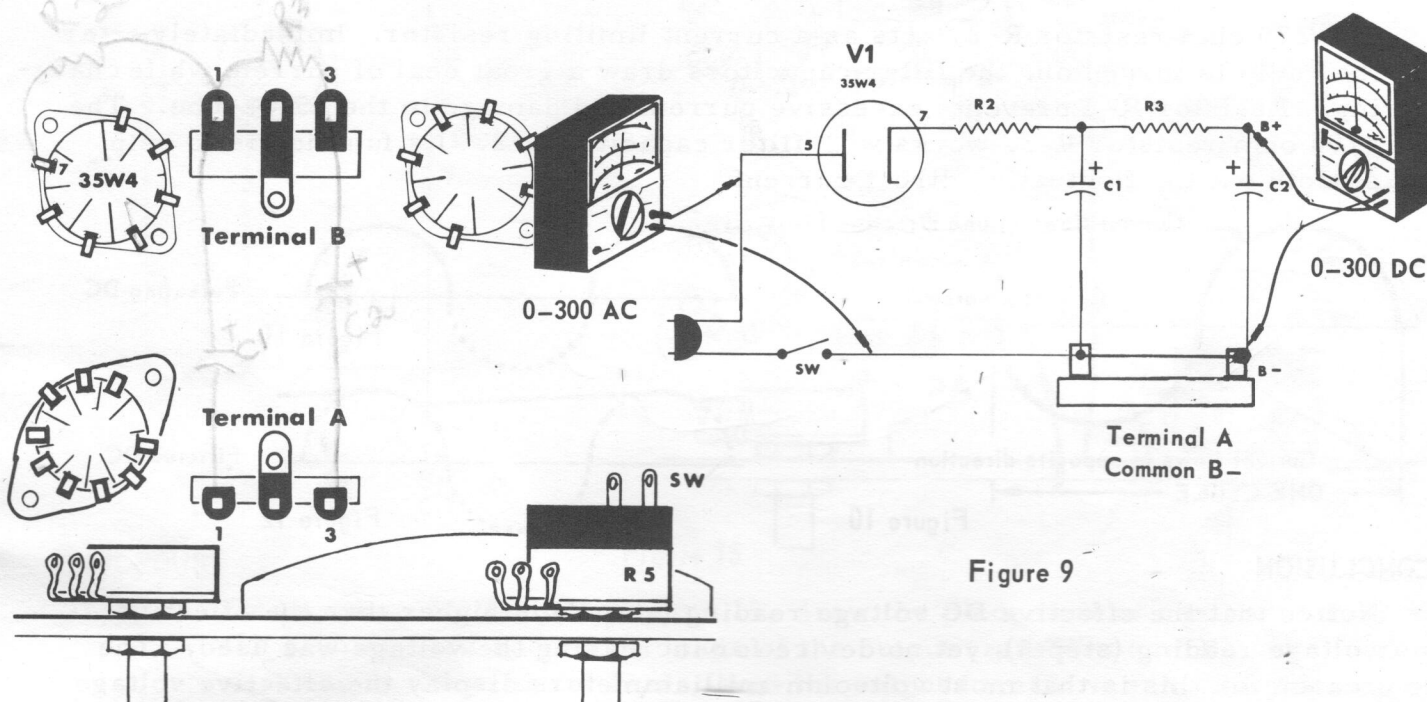

Figure 9
- 1 On the pictorial layout, Figure 9, draw the placement of resistors R-2, R-3, and capacitors C-1, C-2. Use lugs 1 and 3 of terminals A and B, for mounting these components.
- 3 Complete the wiring of the power supply as indicated on the schematic in Figure 9, and your drawing. To maintain neat appearance and maximum operating efficiency, cut component leads to the minimum length required to join any two specified points. Observe polarity when mounting the filter capacitors, C-1 and C-2.
- 1 Adjust a VOM to the 0-300 volt DC range. Connect the negative (-) meter lead to the common ground (B-). Connect the positive (+) meter lead to the positive end of the 20 mfd. filter capacitor, (B+). See Figure 9.
- 4 Move the meter leads to pin 5 of the 35W4 tube and the common ground (B-). Adjust the VOM to the 0-300 volt AC range. See Figure 9.